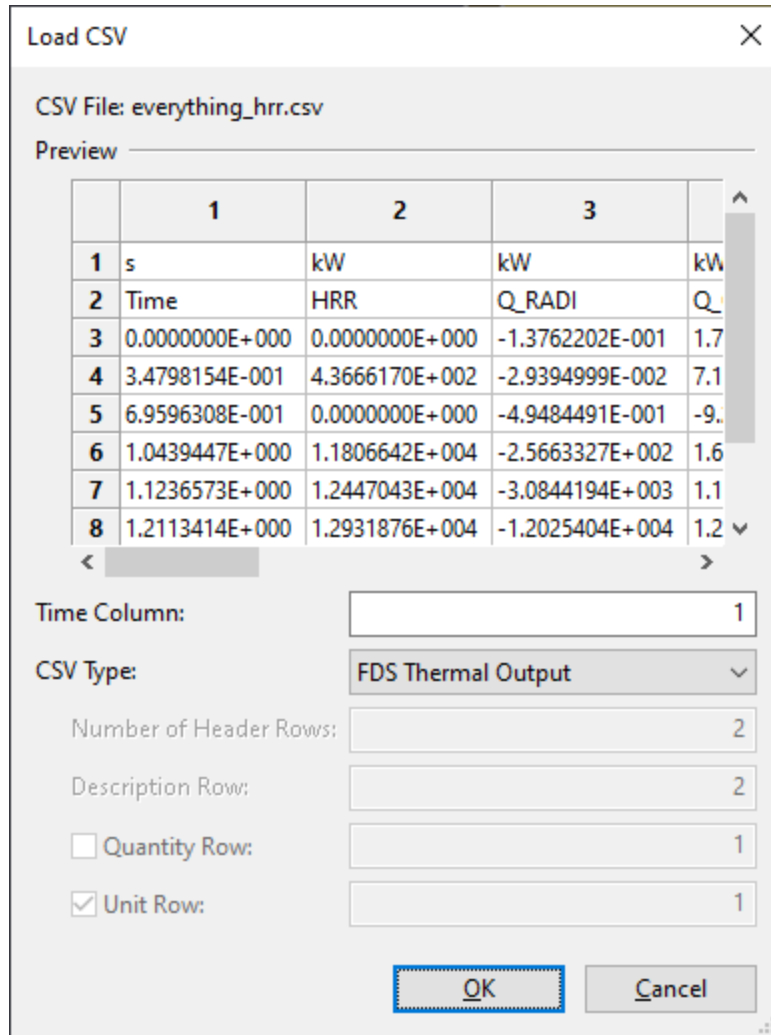

Figure 107. Load CSV Dialog
5. Enter the required information in the **Load CSV** dialog as shown in Figure 107 and click **OK**.